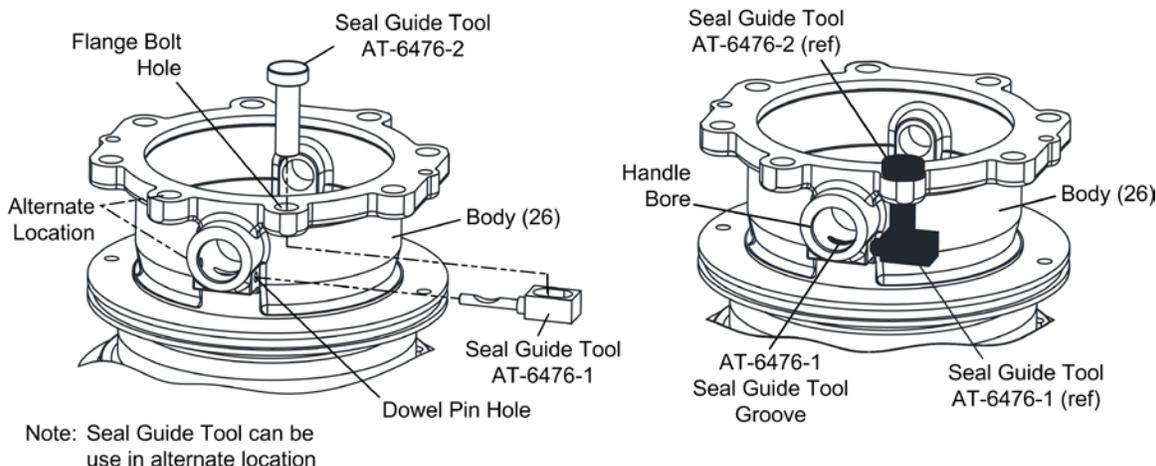

Figure 8. Assembled Handle/Seal Guide Detail
- 6) Put seal guide tool (AT-6476-1) into dowel pin hole (see Figure 8), and seal guide tool (AT-6476-2) into flange bolt hole of coupler body (IPL Figure 1, 26). Align groove of seal guide tool (AT-6476-1) with the inside diameter of the coupler body's (26) handle bore; then slide assembled operating handle (10 [containing items 9, 11, 12, 18, 19, 20, 20A and 27]) through coupler body (26) and then through hex of crank (35).